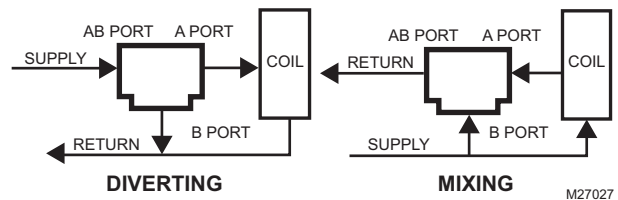

Fig. 23. 3-Way VFF3 butterfly valve flow orientation
2. Mount three-way valves as shown in Fig. 23, according to whether they are to be used for mixing or diverting control. **Note that valve ports are NOT identified on the assembly.** VFF3 valve assembly is factory configured to figure 7a with A port normally closed, but linkage may be adjusted to any position. Note that the B port in Fig. 23 is always the side port of a VFF3 assembly. VFF6 valve assembly is factory configured to figure 7b, but linkage may be adjusted to any position. Note also that the AB (common) port is always the side port of a VFF6 assembly. *Adjust the linkage as needed prior to installation.*
3. Position the disk of the first flange to be attached in the partially open position, keeping the disk within the body faces. See Fig. 23.